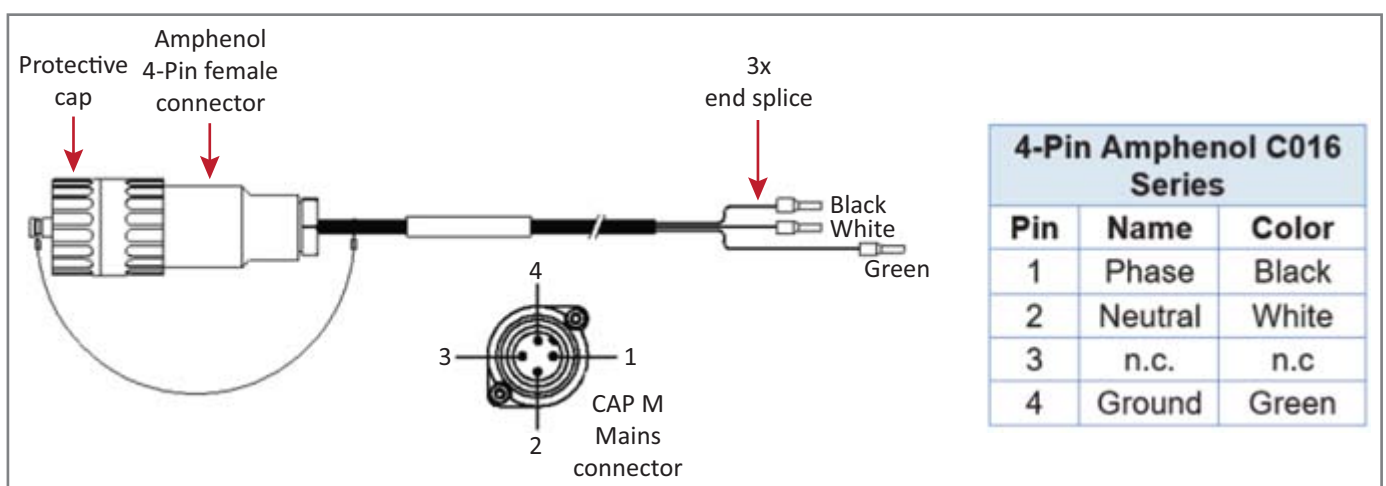

Figure 10. CAP M AC Power Cable
The AC power cable is a 3.2 m (10.5 ft) 16 AWG cable with a 4-pin Amphenol C016 series plug on one end to connect to the CAP M Mains connector. The other end of the cable is unterminated with 3 end splices to connect to the AC power source. A 10 m (33.7 ft) AC power cable is also available as an option. The AC power cable is shown in Figure 10.
- Figure 10 on page 57 for the AC power cable